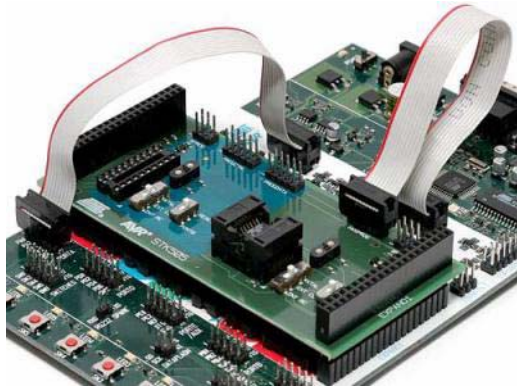

Figure 2-3: High voltage programming of the ATtiny24
3. Connect the PROGDATA on STK500 to HVSPROG on STK505, as shown on figure 2-3.
4. Connect the PROGCTRL on STK500 to the PORTA header on STK500, as shown on figure 2-3.